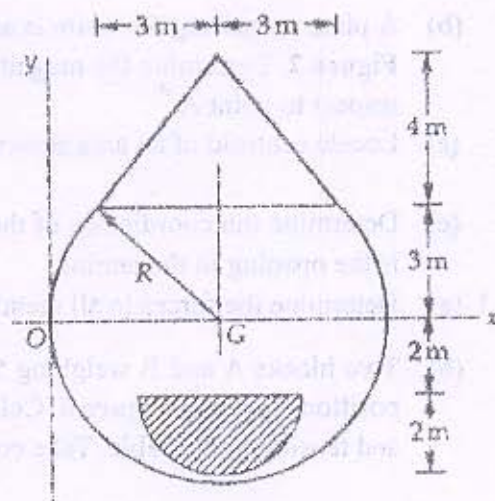

Figure 4
- (c) Determine the coordinates of the for the lamina shown in **Figure 4**. The shaded area is the opening in the lamina. [07]